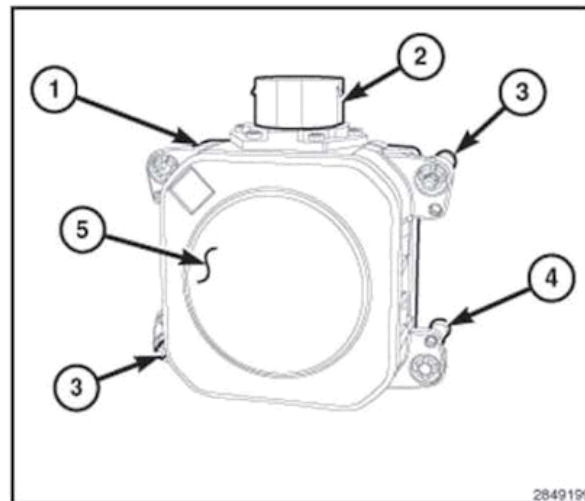

Fig. 2 Adaptive Cruise Control Sensor
One fixed ball stud (4) and two adjustable ball studs (3) secure the sensor housing through a snap fit into three molded plastic ball socket clips installed in the mounting bracket (Fig. 2). The sensor pivots on the fixed ball stud while the two adjustable ball studs allow the sensor to be vertically aligned after installation using the ACC vertical alignment special tool and a 3.5 millimeter hex nut driver special tool (Miller Special Tools #10243).